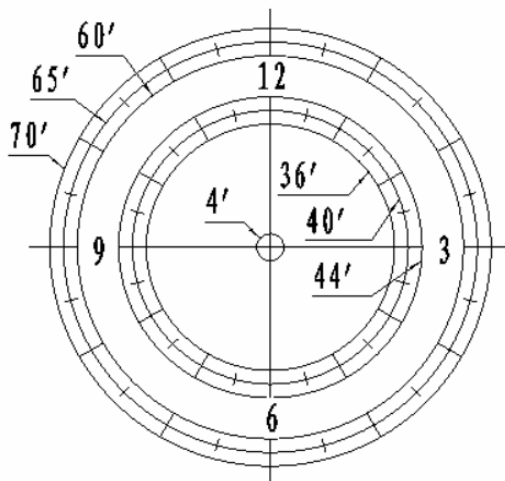
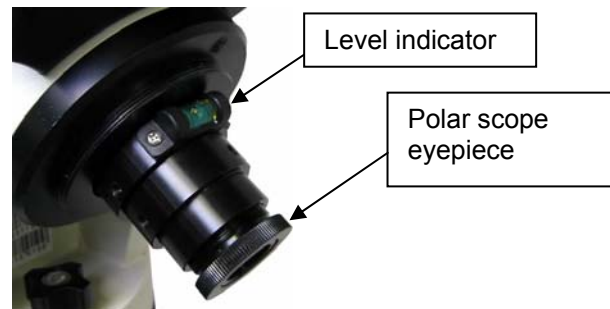

Figure 12. Polar Scope Dial
Figure 13. Polar scope with bubble level indicator
As indicated in Figure 12, the Polar Scope Dial has been divided into 12 hours along the angular direction with half-hour ticks. There are 2 groups, 6 concentric circles marked from 36' to 44' and 60' to 70', respectively. The 36' to 44' concentric circles are used for polar alignment in northern hemisphere using Polaris. While the 60' to 70' circles are used for polar alignment in southern hemisphere using Sigma Octantis.
During initial setup of the iEQ mount, it is likely that the viewing hole on the DEC axis of the polar scope may be blocked by the DEC axle. The Polar Scope Dial in the polar scope may not be set at the normal clock position with 12 located at the top, as shown in Figure 12. Before doing the Quick Polar Axis Alignment, complete the following steps:
- (1) Take off both the Polar Axis Cover and the Polar Scope Cover from the mount.
- (2) Remove the protection tape on the threaded hole located on the Polar Scope. First, thread the dark field illuminating LED end into the threaded hole and then plug the other end into the Reticle socket located on the R.A. unit. The illumination intensity can be adjusted using the hand controller (HC) via the **"Set Eyepiece Light"** function under the **"Set Up Controller"** menu.
- (3) Use the ▲ or ▼ button to turn the DEC axle to unblock the Polar Scope view.
- (4) Adjust polar scope eyepiece shown in Figure 13 to bring the polar scope dial in focus.
- (5) To rotate the Polar Scope to align the 12 position of the dial on the top, as shown in Figure 12, release the four R.A. clutch screws while holding the OTA, then turn the R.A. drive using HC's ◀ or ▶ button (press 9 button to change the rotation speed to MAX). PLEASE remember to hold onto the OTA or it could swing. If your Polar Scope is equipped with a bubble level indicator, as shown in Figure 13, simply make sure the bubble is in the middle.
Remove the CW Safety Screw on the end of the CW shaft. Loosen the CW Locking Screw on the side of the CW (there is a CW pin inside) and slide the CW into the shaft as shown in Figure 13(a). Tighten the CW Locking Screw to hold the CW in place. Tighten the CW Safety Screw.